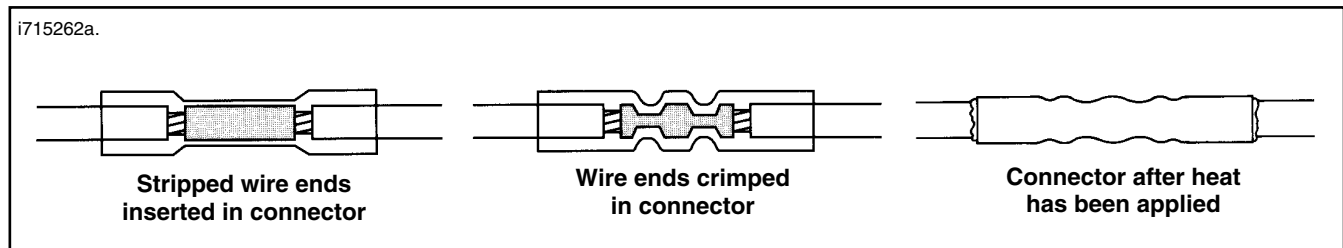

Figure 3. Install Sealed Butt-Splice Connectors
2. See Figure 3. Insert one stripped end of each same-colored turn-signal wire into opposite ends of a butt splice connector. Connect black to black in one connector, and violet/brown to violet/brown in the other connector.